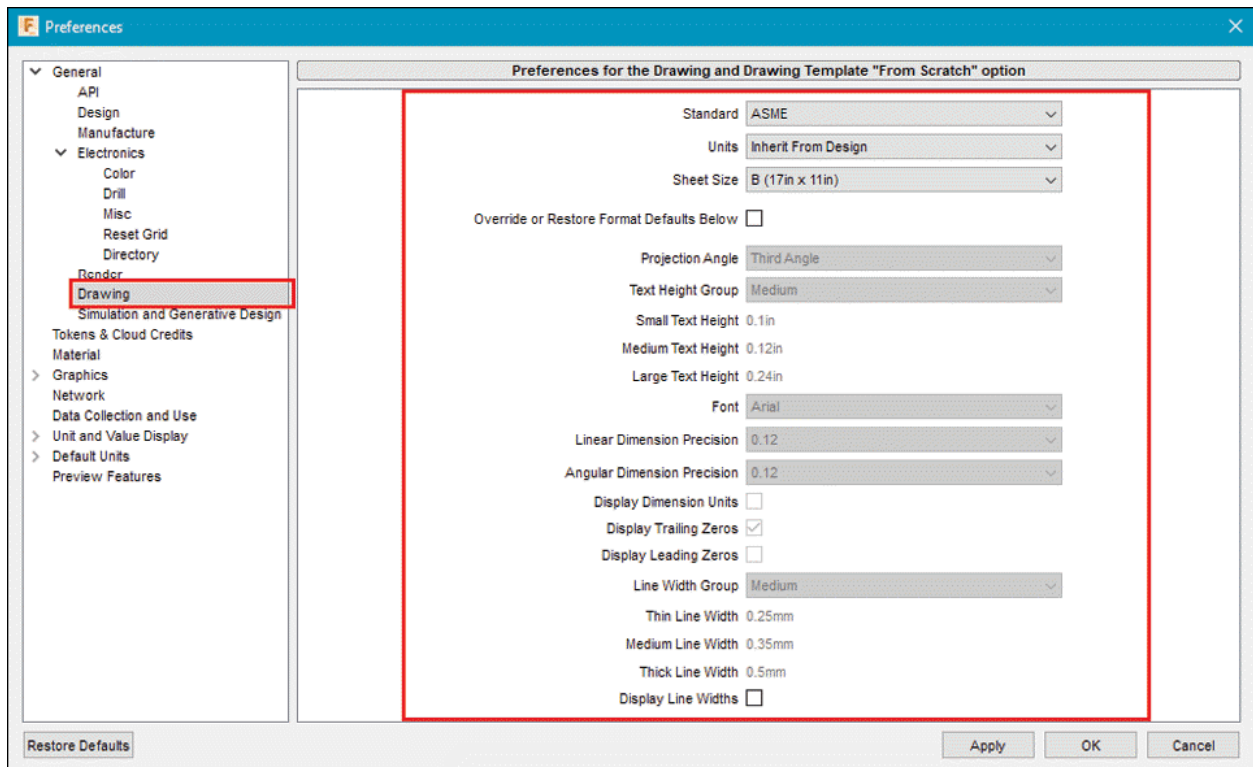

Figure-4. Drawing node in Preferences dialog box
- Select the **Drawing** option from the **General** node at the left in the dialog box. The options will be displayed as shown in Figure-4.